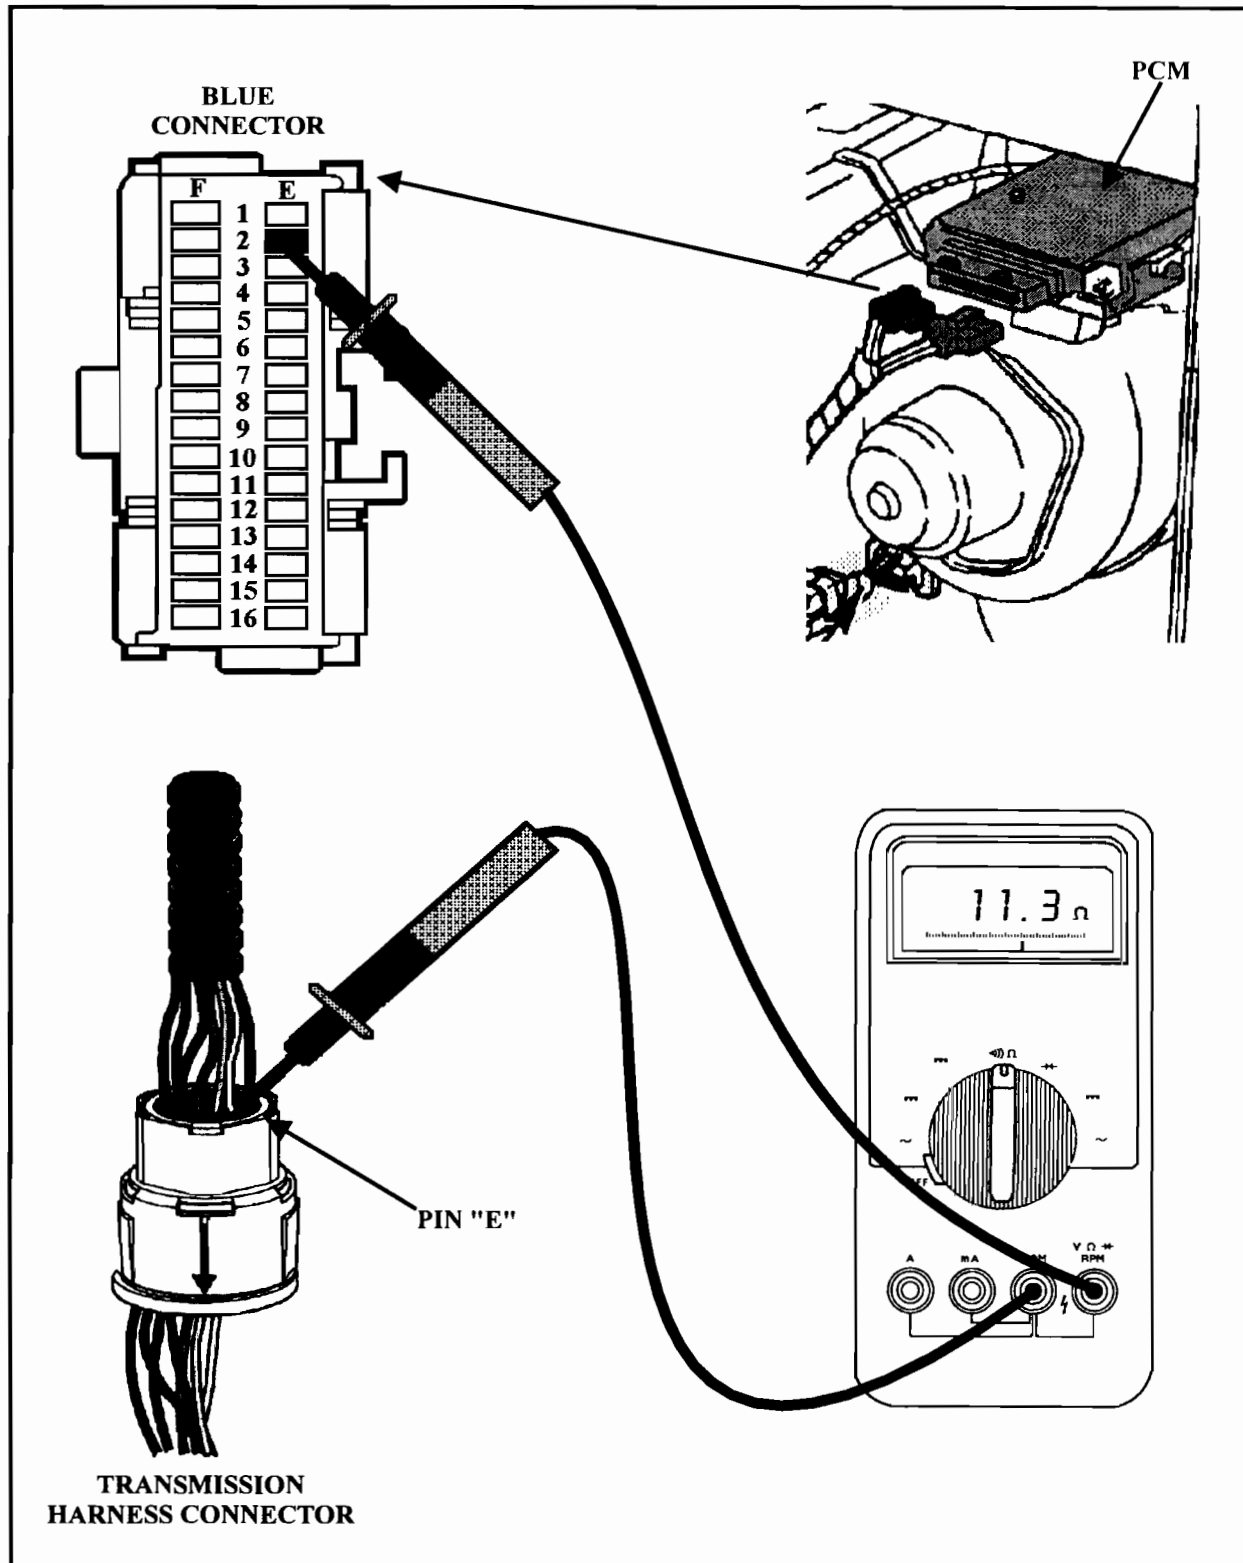

Figure 27
- 4-Referring to Figure 27, disconnect the WHITE wire at terminal E2. This will be the negative side of the circuit. This is where the BLACK lead of the ohm meter will go.